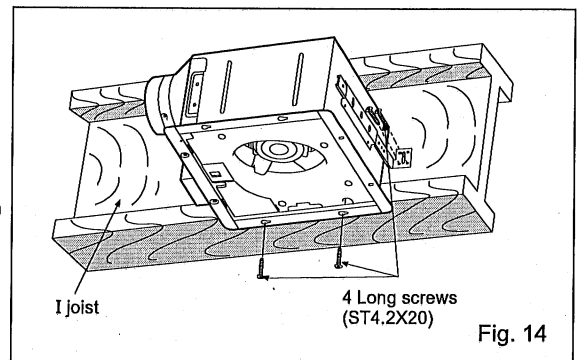

Fig. 14
3. Connect the fan body to the I-joist. (Fig. 14)